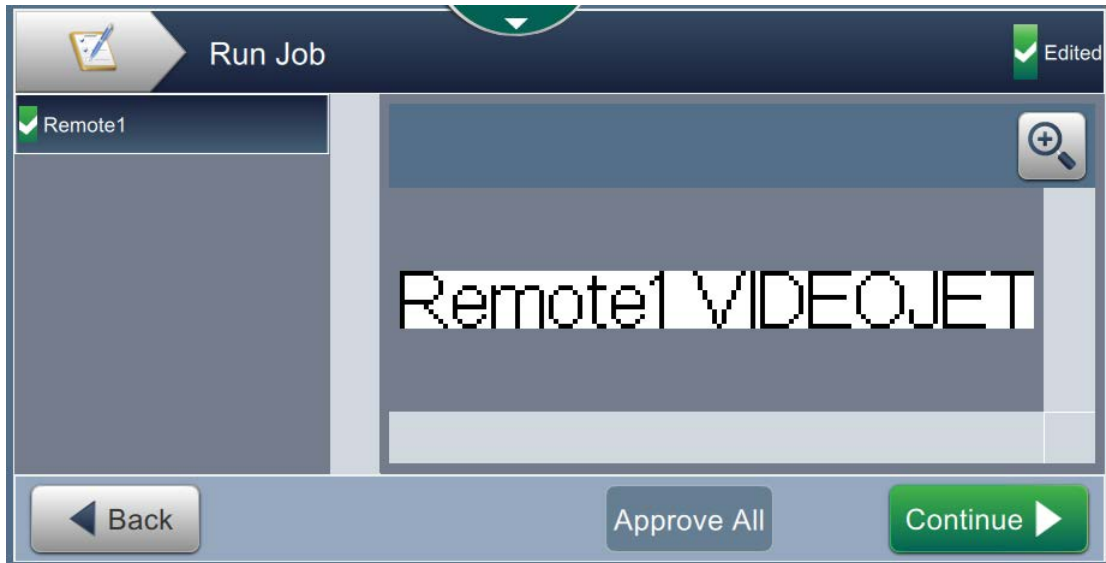

Figure 3-39: Run Job Screen
21. Touch *Approve All* button and then touch the *Continue* button, since the job contains user prompted field (Figure 3-39).